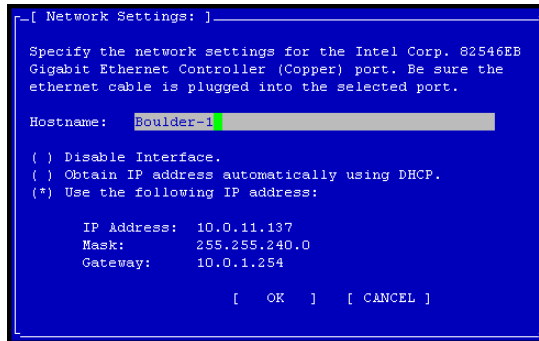

Figure 206. Entering the Host Name and Settings for an Interface
2. Tab to select the network interface that you want to configure and press Enter. The Network Settings window opens, shown in Figure 206.